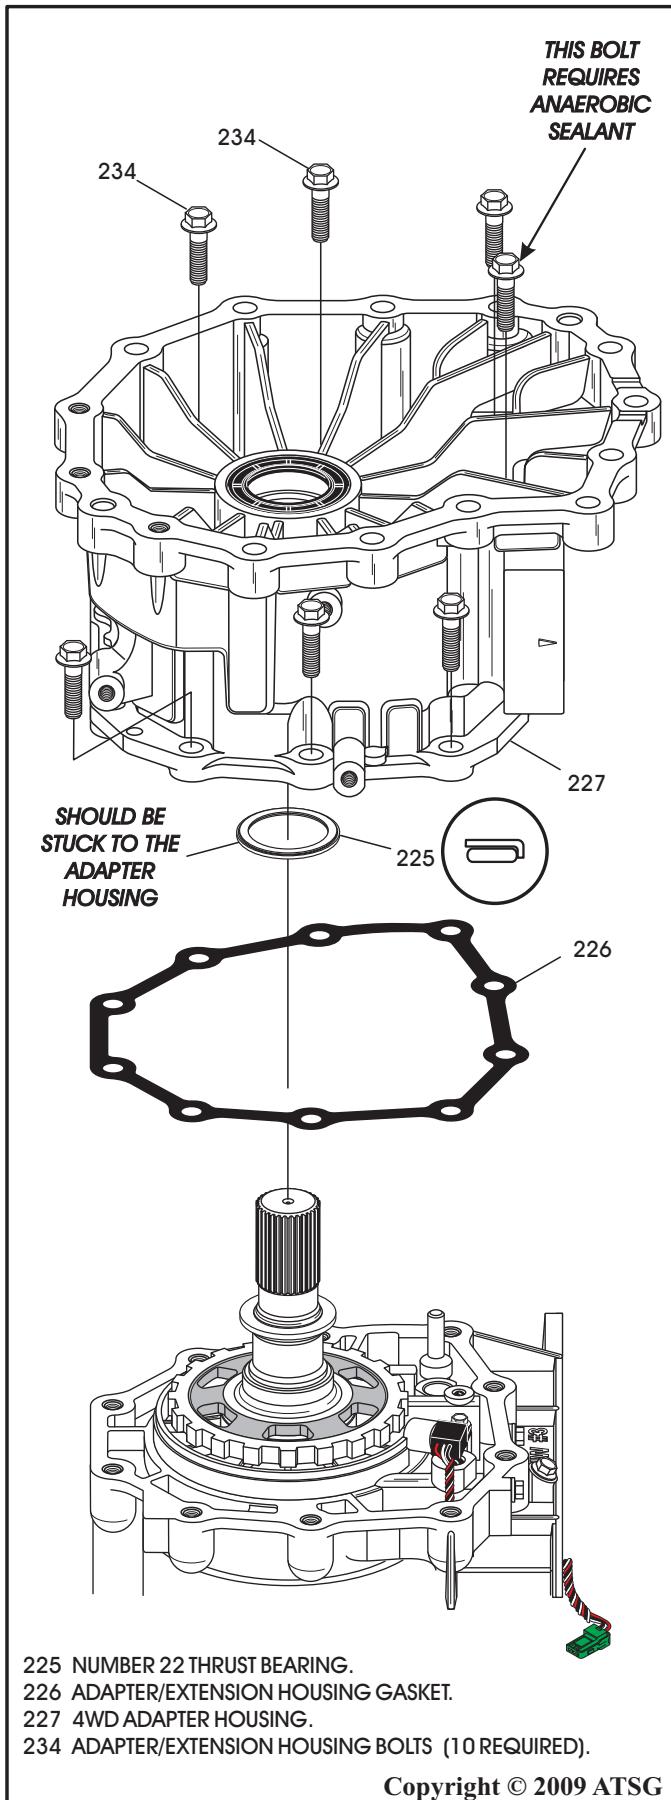

Figure 213
47. Install the proper extension housing to case gasket, as shown in Figure 213, and retain with a small amount of Trans-Jel®.
48. Ensure that the number 22 thrust bearing is still stuck to front side of adapter housing, as shown in Figure 213.
49. Install the 4WD adapter housing onto the case, as shown in Figure 213.
50. Install the adapter housing retaining bolts, as shown in Figure 213, ten required.